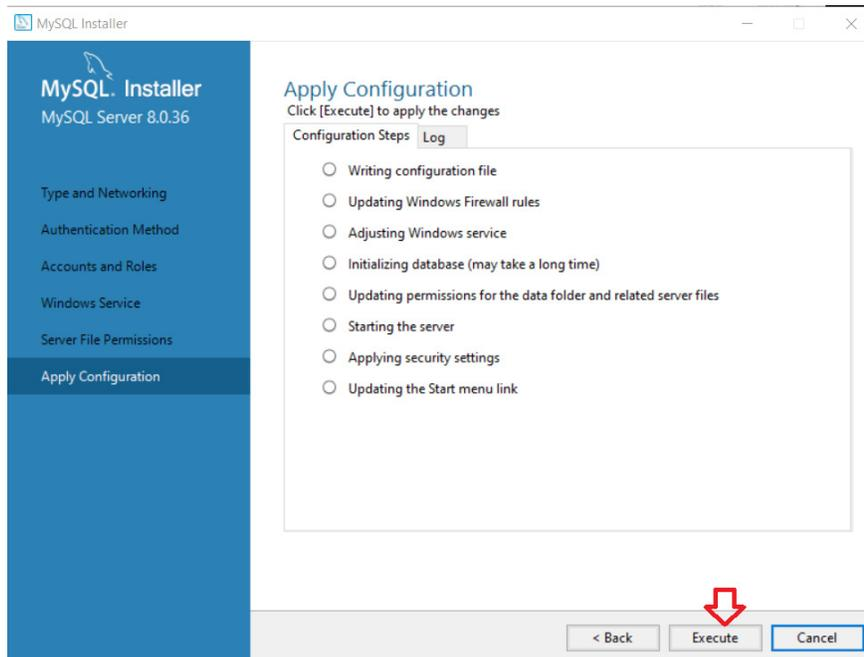

Figure A10
10. On the "Apply Configuration" screen, click "Execute". (Figure A10) After the MySQL installation has completed, exit the SQL Installer.